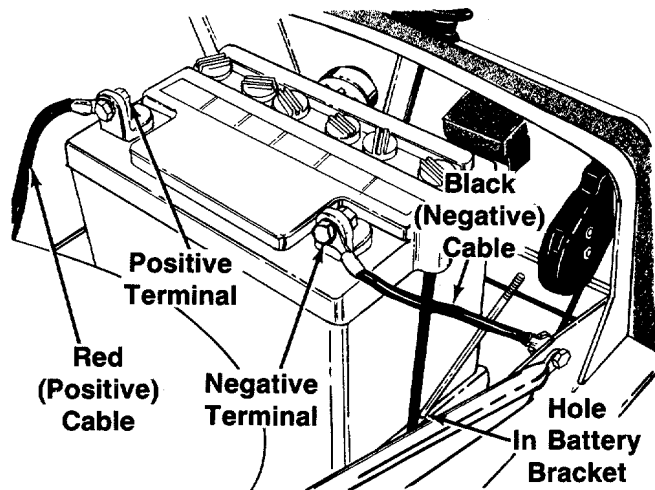
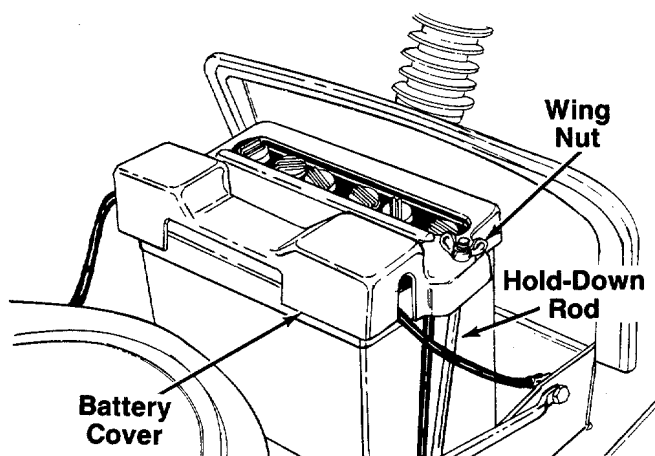

FIGURE 6.
FIGURE 7.
- Place the battery in the lawn tractor so that the positive terminal is facing the right side of the unit. See figure 6.
- Attach the positive cable (heavy red wire) to the positive battery terminal (+) with hex bolt 5/8" long, 1/4" lock washer and hex nut. See figure 6.
- Hook one hold-down rod into the hole in the edge of the battery bracket beside the battery. See figure 6. Place the black plastic battery cover in position over the hold-down rod. Secure with wing nut. Attach other hold-down rod to the other side of battery cover in the same manner. See figure 7.